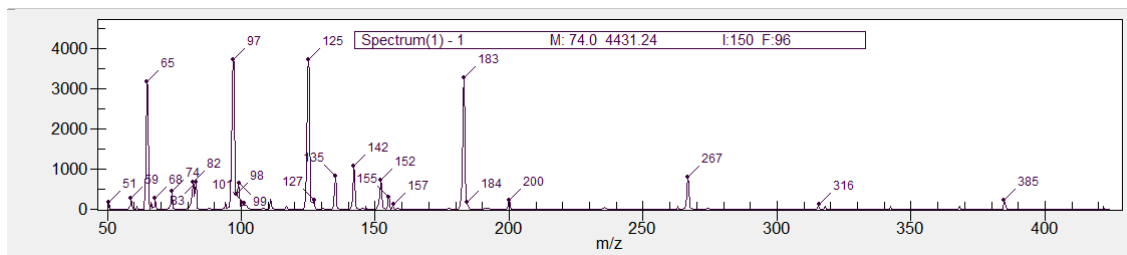

Figure 1.1 – Mass spectrum of positive-ion mode calibration mixture
9. Once the transfer lines have been successfully purged, change the flow rate to 10  $\mu\text{L}/\text{min}$ . The mass spectrum generated should be similar to the positive-ion calibration spectrum seen in Figure 1.1.